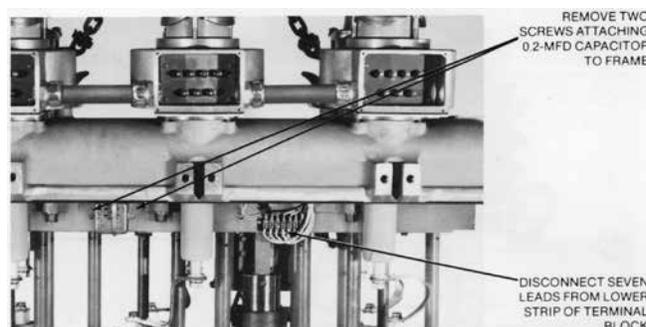

Figure 4. Capacitor and terminal block location.
C. Remove the two screws that secure the 0.2 mfd capacitor to the load side of the recloser frame (Figure 4).
D. Disconnect the seven leads connected to the lower terminal strip of the terminal block attached to the recloser frame (Figure 4).